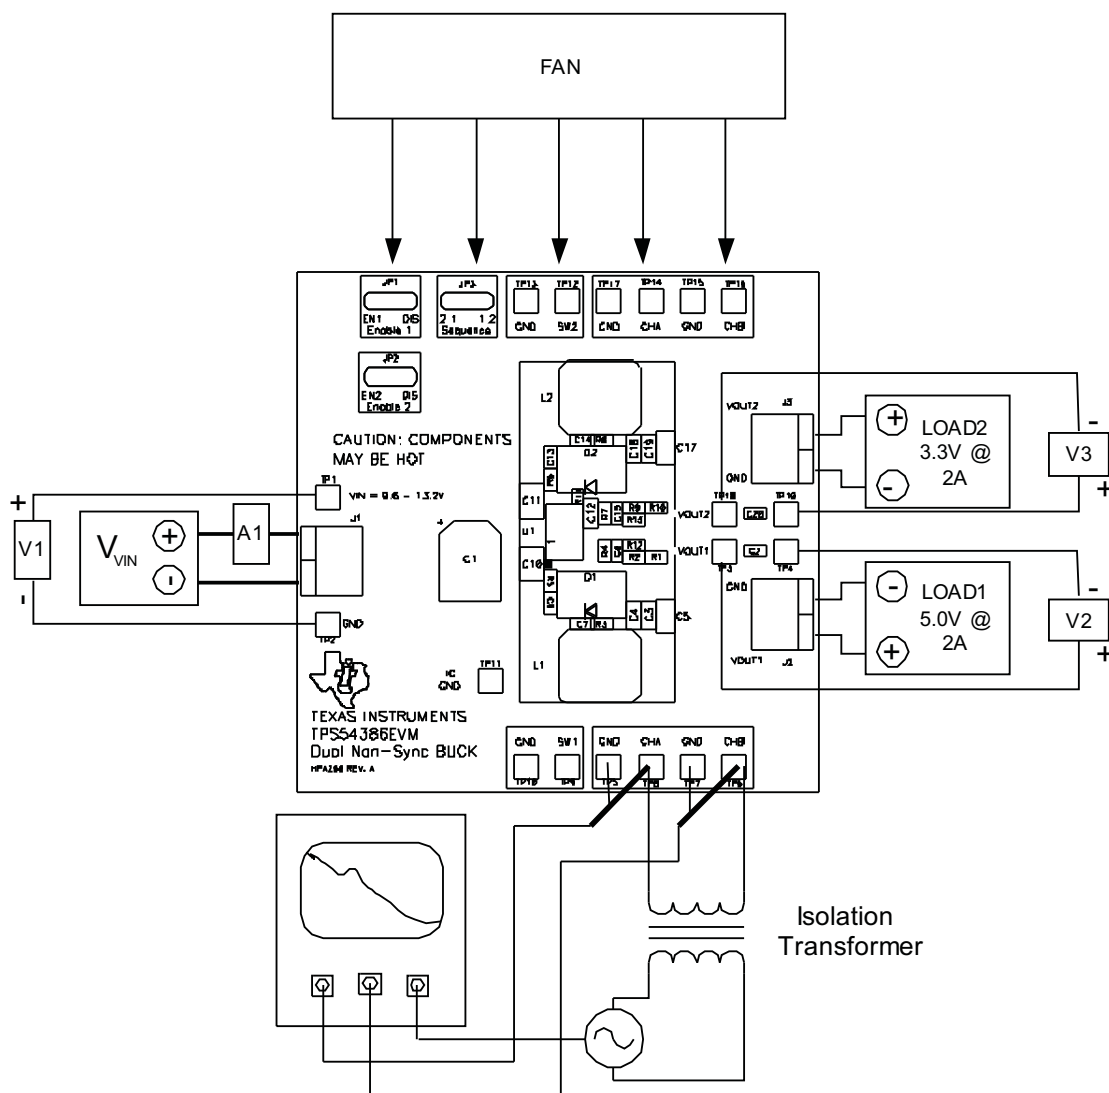

Figure 4. Control Loop Measurement Setup
1. Connect 1 kHz to 1 MHz isolation transformer to TP6 and TP8 as show in Figure 4.
2. Connect input signal amplitude measurement probe (Channel A) to TP8 as shown in Figure 4.
3. Connect output signal amplitude measurement probe (Channel B) to TP6 as shown in Figure 4.
4. Connect ground lead of Channel A and Channel B to TP5 & TP7 as shown in Figure 4.